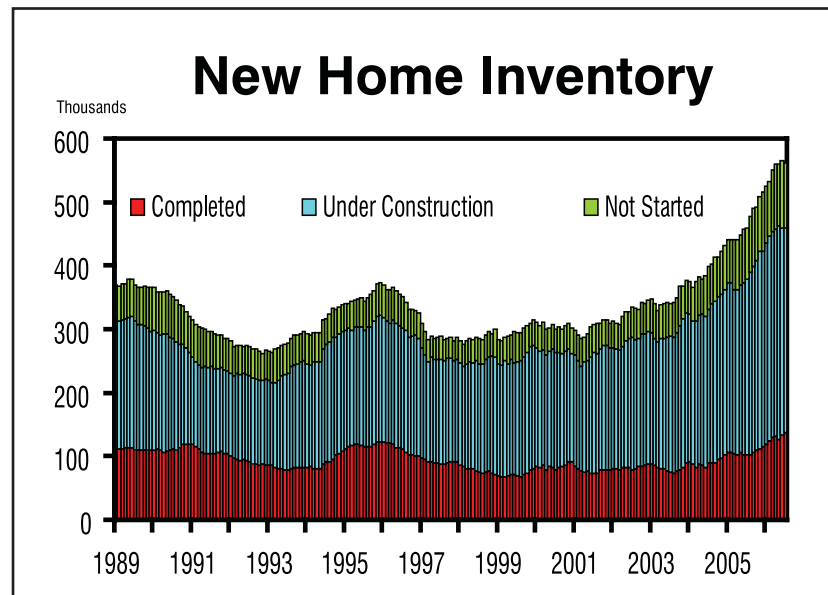

Figure 1. Is The Sky Falling? (Source: Stanley F. Duobinis)
**Overbuilding & Excess Inventory.** Widespread overbuilding has led to high unsold home inventories, according to economists, which has a direct impact on component manufacturer contracts. Zandi says the gap between new housing supply and demand has widened steadily and currently stands at about 500,000 units. Duobinis used Figure 1 to